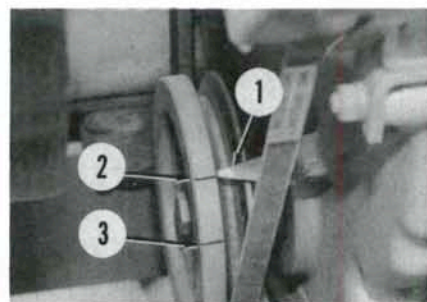

Fig. 116—View of timing pointer (1) and crankshaft pulley showing top dead center timing mark (2) and start of injection timing mark (3).
Rotate crankshaft clockwise until No. 1 piston is on compression stroke and TDC mark (2—Fig. 116) on crankshaft pulley is aligned with timing pointer (1). Then, turn crankshaft counterclockwise approximately 30°. Turn on fuel supply to pump and note that fuel should be flowing from No. 1 delivery valve holder. Slowly turn crankshaft clock-
Rotate crankshaft clockwise until No. 1 piston is on compression stroke and TDC timing mark (2—Fig. 116) on crankshaft pulley is aligned with timing pointer (1). Then, turn crankshaft counterclockwise approximately 30° BTDC. Turn on fuel supply to pump and move pump control lever to full speed position. Slowly turn crankshaft clockwise while observing fuel flowing from No. 1 delivery valve holder. Stop turning crankshaft at exact point at which fuel stops flowing from delivery valve holder, which is start of injection. Pump timing should be correct if the first timing mark (3) on crankshaft pulley is aligned with pointer (1) at this point.
Rotate crankshaft clockwise until No. 1 piston is on compression stroke and TDC mark (2—Fig. 116) on crankshaft pulley is aligned with timing pointer (1). Then, turn crankshaft counterclockwise approximately 30° . Turn on fuel supply to pump and move throttle lever to full speed position. Note that fuel should flow from No. 1 delivery valve holder. Slowly turn crankshaft clockwise to locate exact point at which fuel stops flowing, which is start of injection. Pump timing should be correct if the first mark (3) on crankshaft pulley is aligned with pointer (1) at this point.